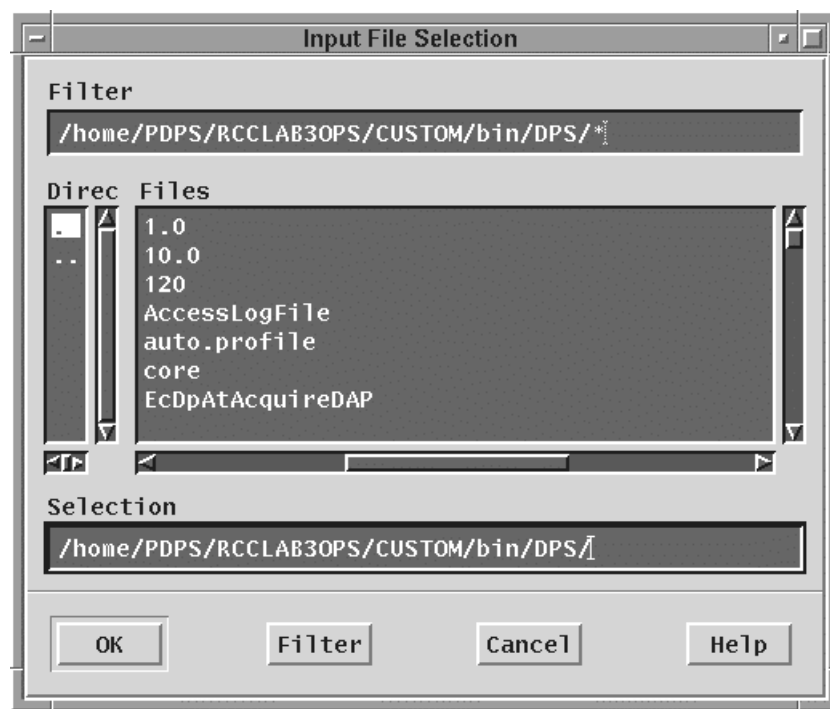

Figure 4.5.1-36. Input File Selection Pop-up
- **Batch Mode**; allows the operator to run a script including command lines for creating SSAPs. The operator is prompted to select the batch mode file using the **Input File Selection** screen, shown in Figure 4.5.1-36.
A toolbar at the top of the screen shows the name of the **Current SSAP** and the **Current File Type** (SSAP), shown in Figure 4.5.1-35.